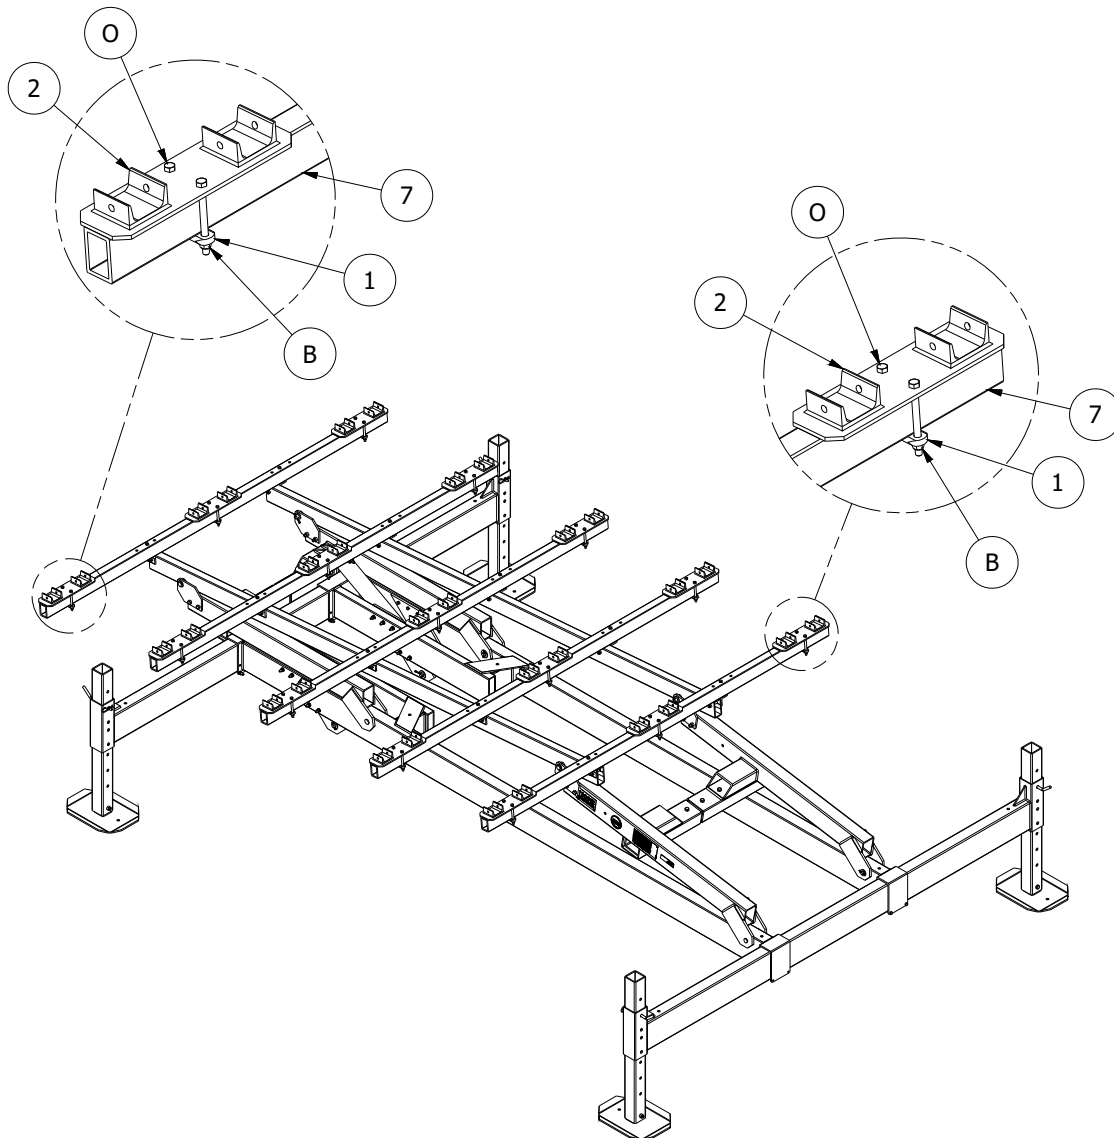

Figure 2-6.
1. Refer to Figure 2-6. Position one P&T Toon A/V cradle bracket (2), near end of a cross support tube.
2. Attach bracket using two hex screws (F), one two hole mounting plate (1), and two aluminum locknuts (B). **DO NOT TIGHTEN AT THIS TIME.**